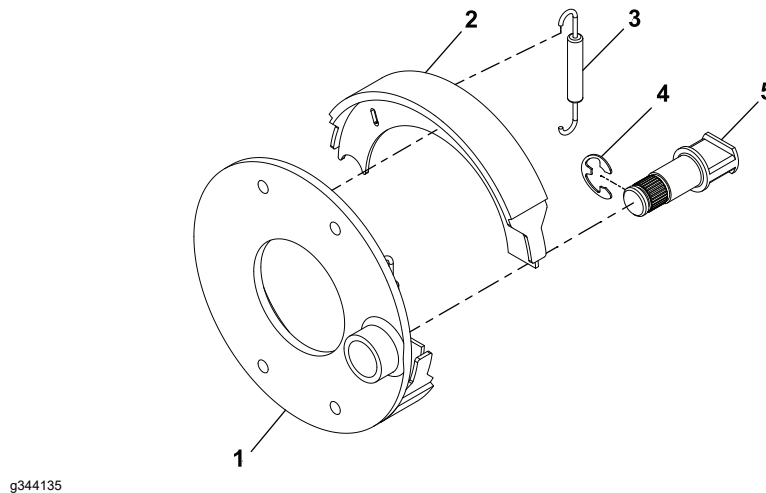

Figure 154
9. Disassemble brake assembly as follows (Figure 154):
- A. Remove return springs (3) from the brake shoes (2). Remove brake shoes from the backing plate (1).
- B. Matchmark brake cam and brake lever to assure proper alignment during reassembly. Remove retaining ring (4) from the brake cam. Pull brake lever from the cam (5). Remove cam from backing plate.
10. The brake bracket (9) and wheel shield (8) can be removed as follows:
- A. Remove lock nuts (10), spacers (7), and socket head screws (5) securing the brake bracket, wheel shield, and hydraulic motor to the frame.
- B. Separate bracket (9) and shield (8) from the frame.
2. Assemble brake assembly as follows (Figure 154):